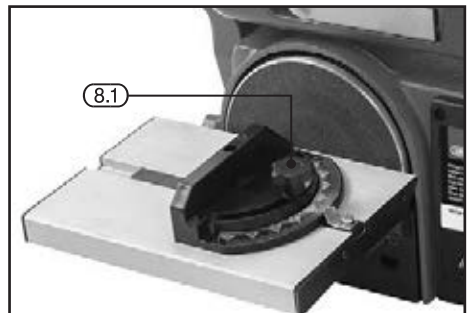

FIG.8
8.6 MITRE GAUGE ANGLE ADJUSTMENT - FIG. 8